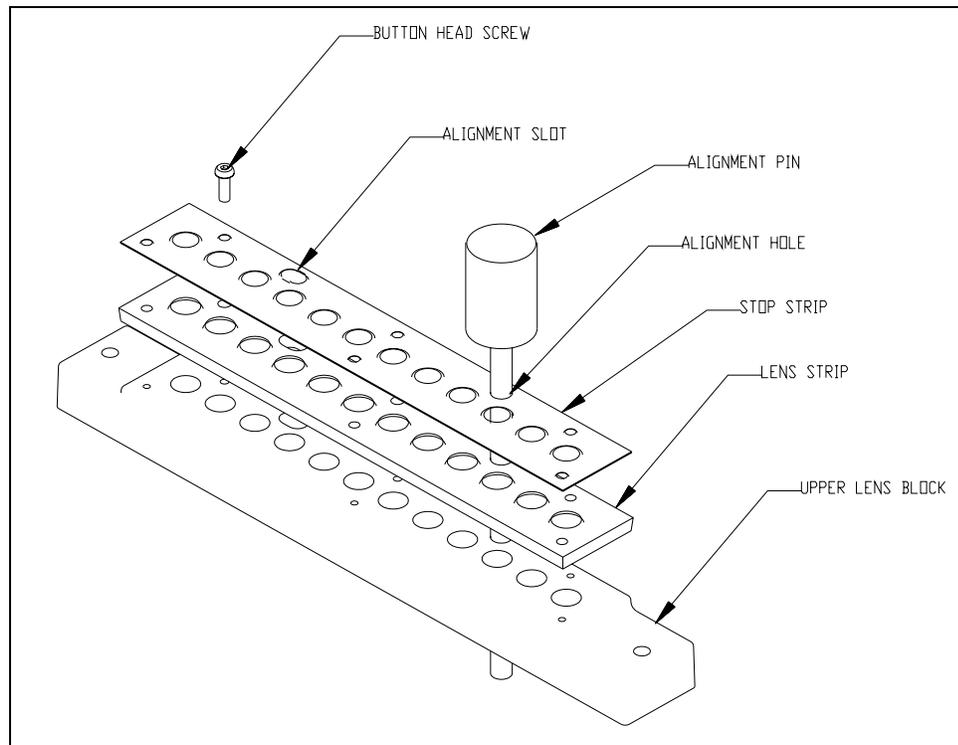

Figure 11-37 Upper Block Components
- 1 Unscrew the 6-M2 x 8mm button head screws holding the assembly together (Figure 11-37).